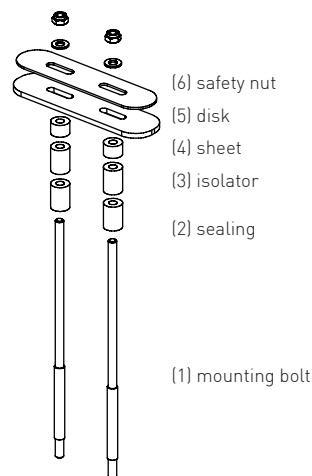

Fig. 15: assembly mounting bolts
Finally plug the distance pieces on the thruster. Insert the mounting bolts like illustrated in fig. 15 cutting them in the boat interior as necessary. Apply seals (2) according to the hull thickness (note: hull thickness + 25 %).